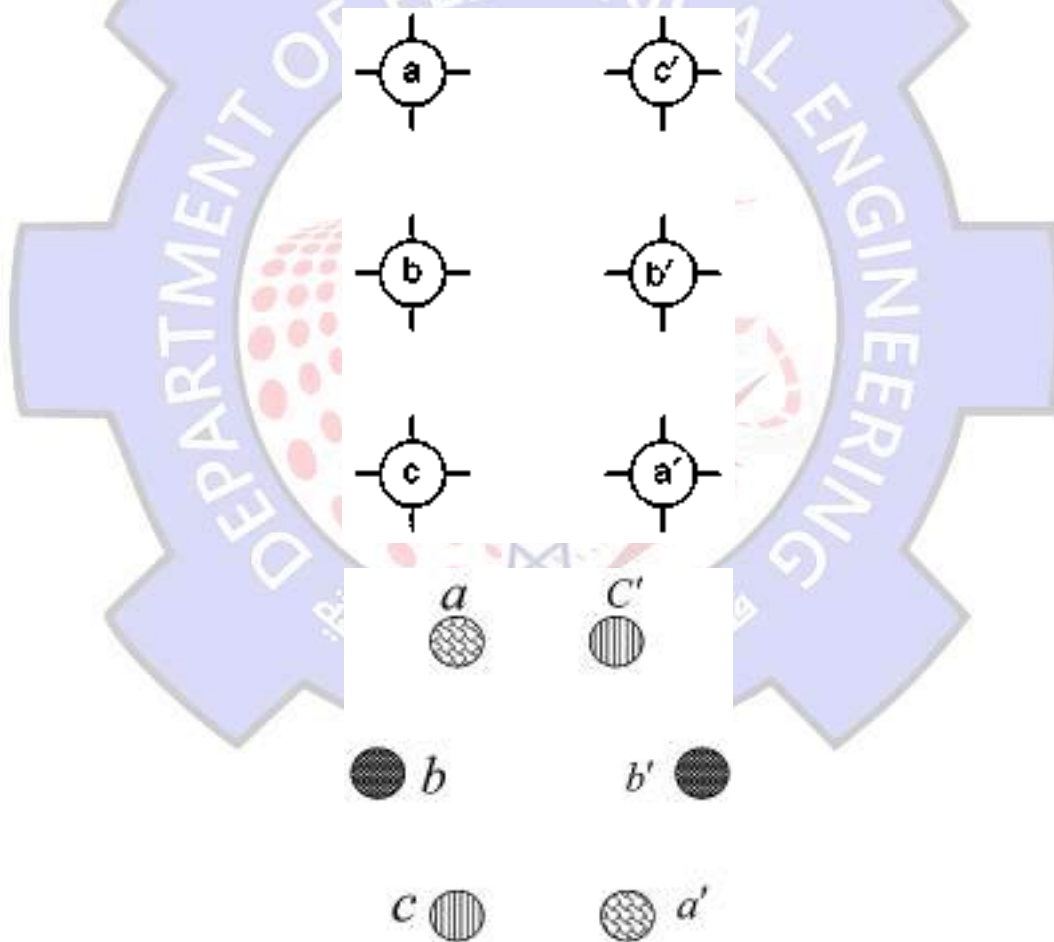

Fig. 21:
- This is possible if mutual  $GMD$  ( $D_m$ ) is low and self  $GMD$  ( $D_s$  or  $GMR = 0.7788 r$ ) is high as shown in figure 21 below.